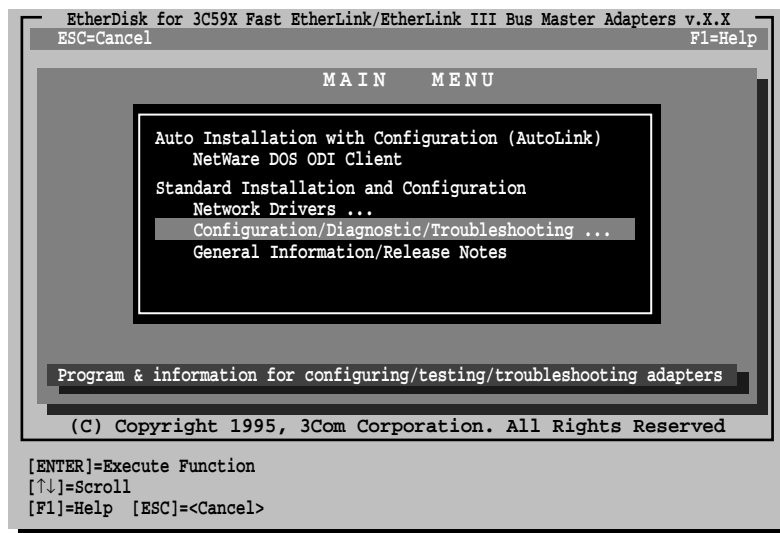

Figure A-1 Main Menu
- 6 When the main menu screen appears, as shown in Figure A-1, select Configuration/Diagnostic/ Troubleshooting.